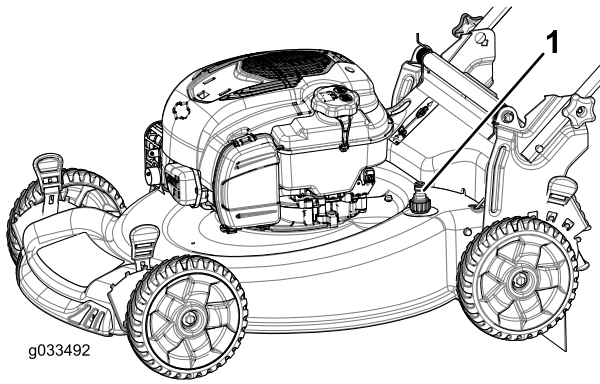

Figure 25
- Attach a garden hose that is connected to a water supply to the washout port (Figure 25).